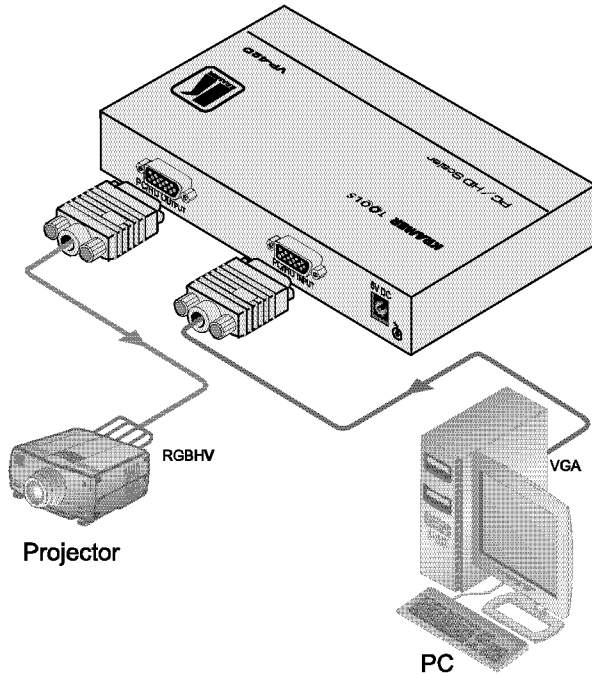

Figure 3: Connecting the VP-420 PC/HD Scaler
To connect your **VP-420/VP-421**, as illustrated in the example in Figure 3 do the following:
4. Connect the 5V DC power adapter to the power socket and connect the adapter to the mains electricity (not shown in Figure 3).